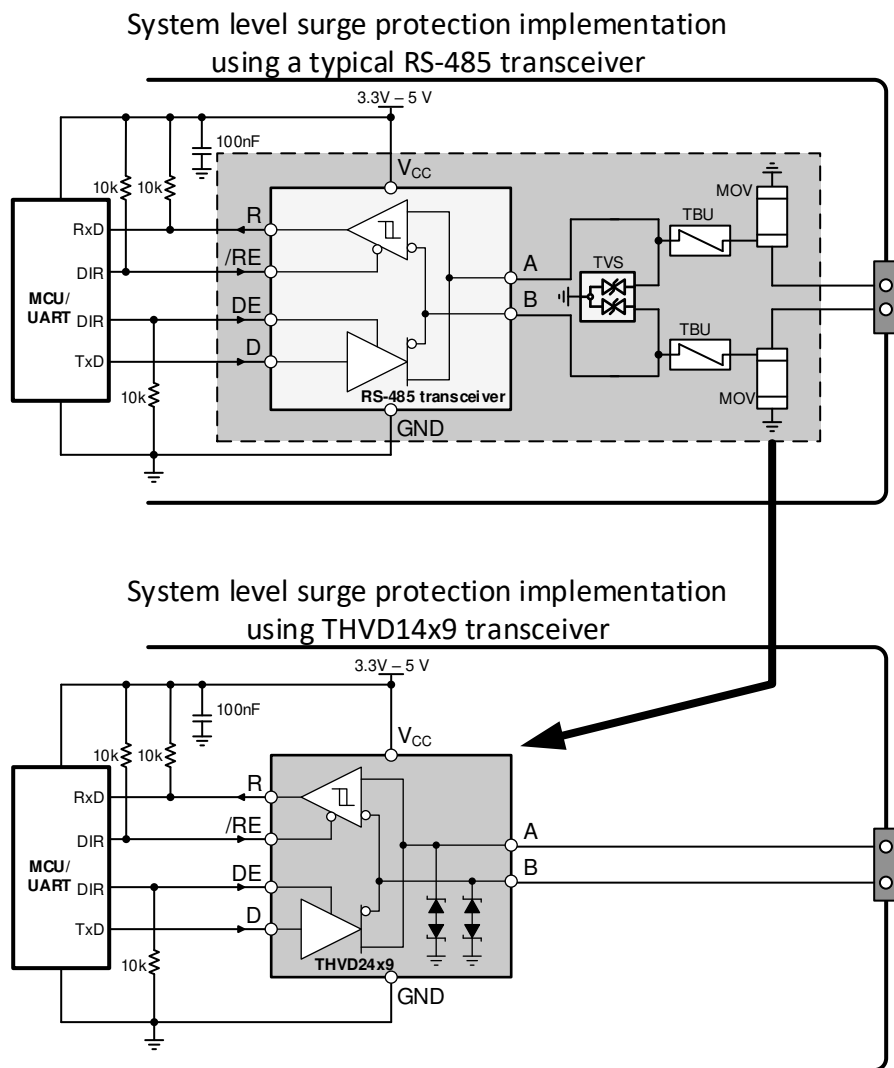

Figure 9-3. Implementation of System-Level Surge Protection Using THVD14x9(V)
RS-485 transceivers operate in noisy industrial environments typically require surge protection at the bus pins. Figure 9-3 compares 4-kV surge protection implementation with a regular RS-485 transceiver (such as THVD14x0) against with the THVD14x9(V). The internal TVS protection of the THVD14x9(V) achieves ± 4 -kV IEC 61000-4-5 surge protection without any additional external components, reducing system level bill of materials.